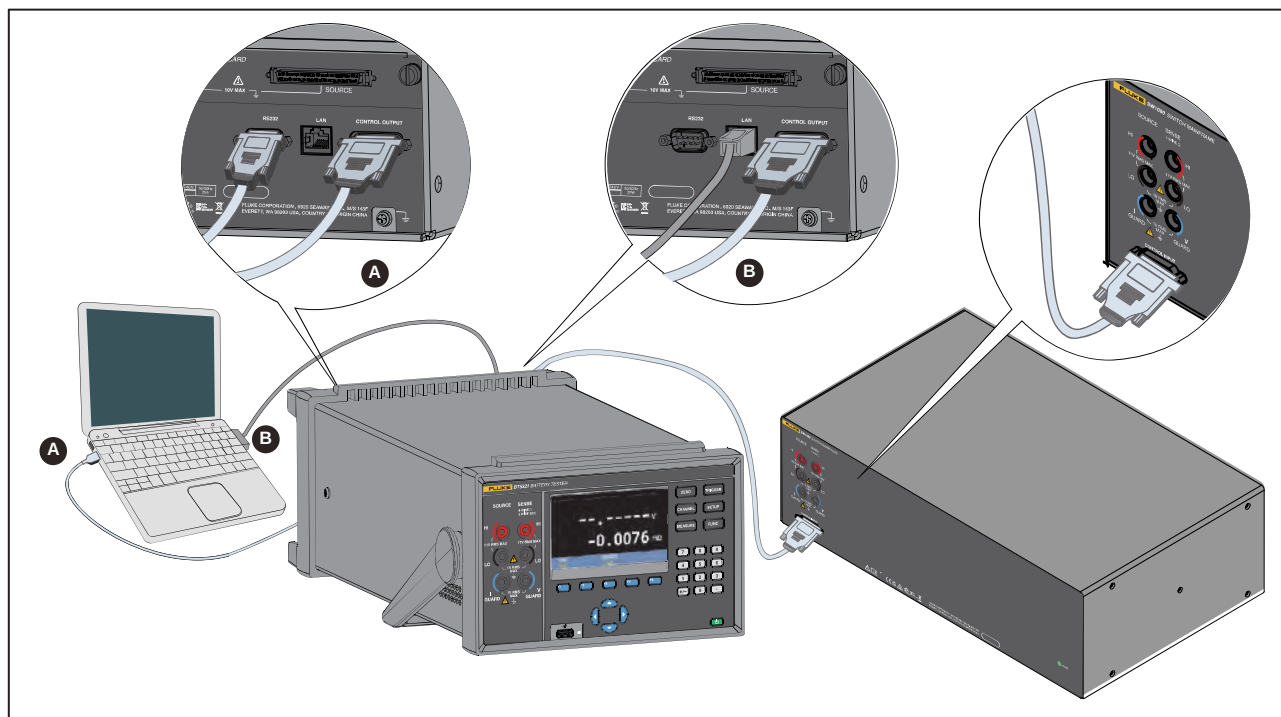

Figure 44. Connecting to the computer
As shown in method A of Figure 44, connect a RS-232 to USB adapter cable from the RS-232 port (⑤ Figure 3) on the rear panel of the Product to a USB port on the computer, or connect a standard RS-232 communication cable to a standard RS-232 port on the computer.
As shown in method B of Figure 44, connect a Ethernet cable from the Ethernet port (⑥ in Figure 3) on the rear panel of the Product to a Ethernet port on the computer.